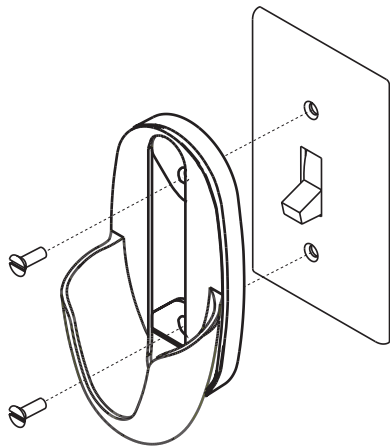

Figure 23 - Installing the remote cradle for a standard light switch
- Orient the control cradle as shown in Figure 23, and line up the two inner mounting holes with those on the switch, insert screws, don't over tighten.